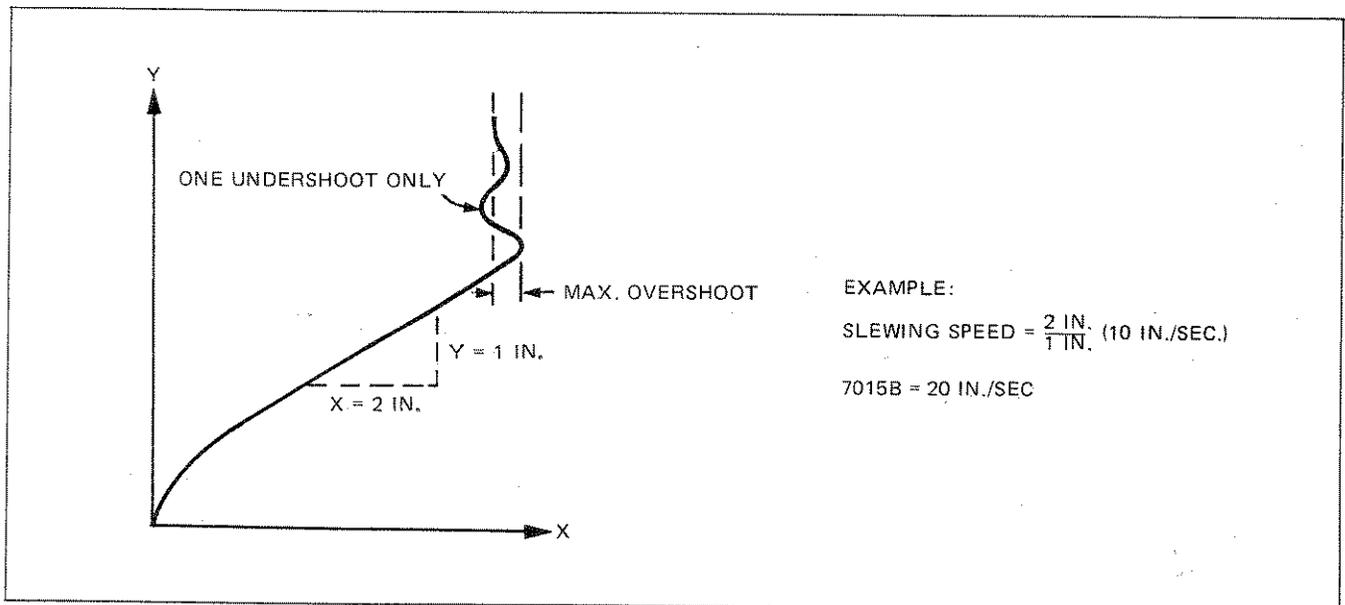

Figure 4-6. X-Axis Slewing Test Plot
o. When the Y-axis is near the center of its up-scale travel, insert cable from HP 6202B Power Supply into X-axis input. The recorder plot should appear similar to Figure 4-6.
q. The slope of the straight line portion of the plotted curve (towards the right side of the page) should be determined. This slope should be less than one half. Maximum overshoot is 0.2 in. (0.5 cm). (See Figure 4-6.)